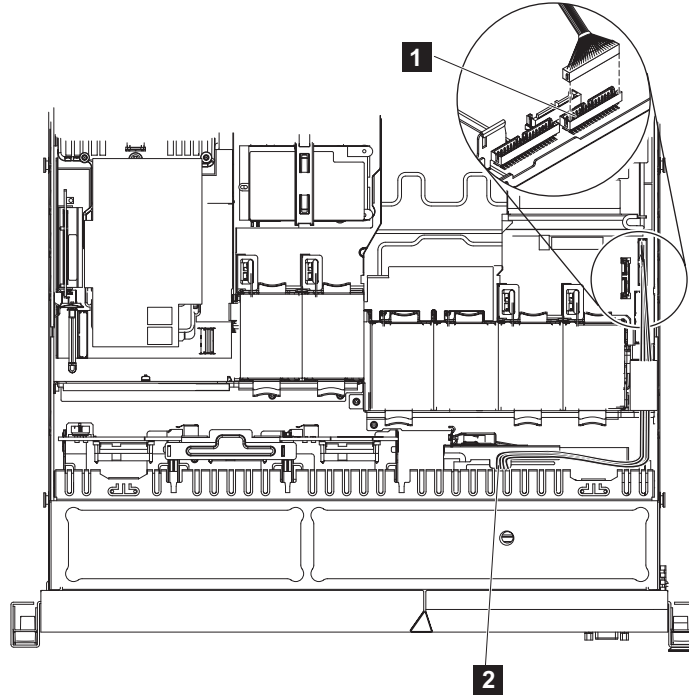

Figure 226. Disconnecting the SAN Volume Controller 2145-CF8 operator-information panel cable
3. Disconnect the cable from the connector above the Video/USB cable connector on the right side of the node, as shown in Figure 226 on page 239.